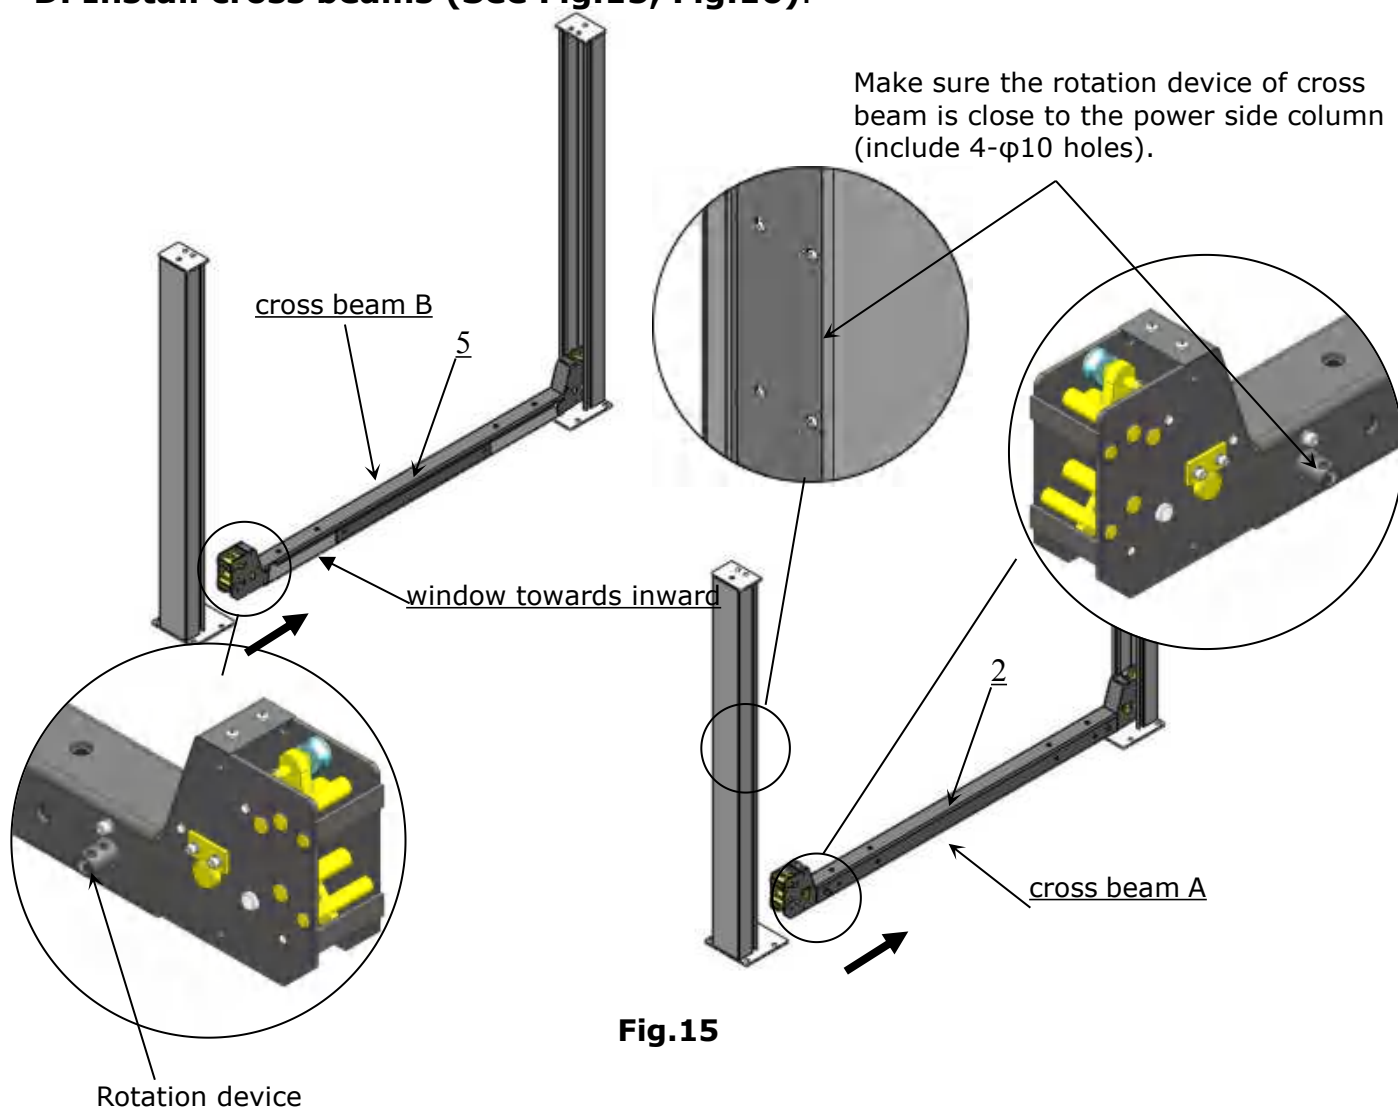
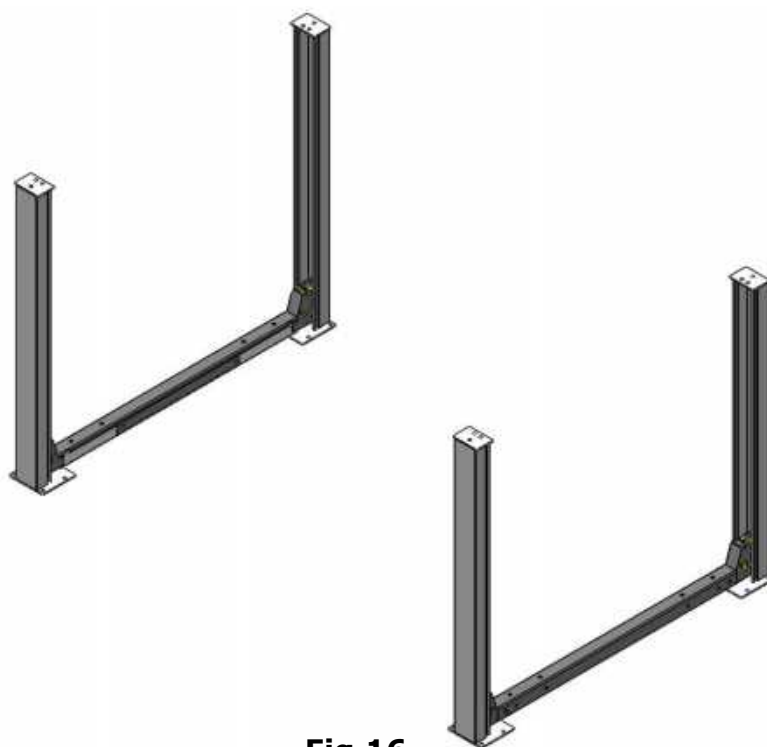

Fig.15
Fig.16
D. Install cross beams (See Fig.15, Fig.16).